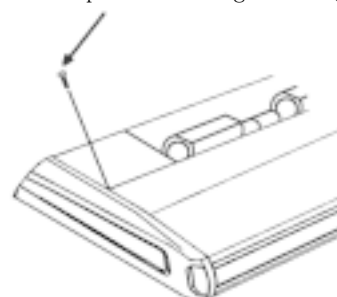

Fig. 24
- Remove the side panel fixing screw and pull to the front direction (arrow direction) to remove. (Refer to Fig.24)